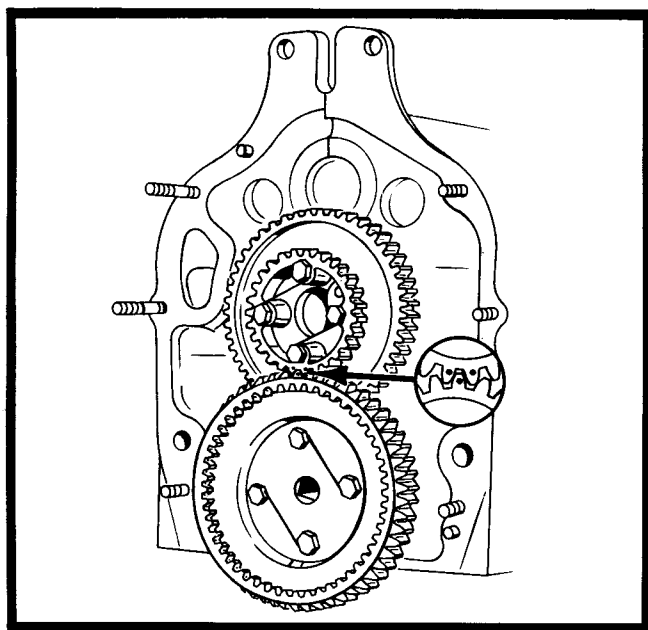

Figure 8-2. Alignment of Timing Marks.
d. Lubricate governor driven gear with clean engine lubricating oil and insert it into the crankcase bore. Lay camshaft assembly in crankcase bearings, meshing spur gear teeth with crankshaft gear so that timing marks are aligned and turning governor driven gear so it meshes with governor drive gear (see Figure 8-2).